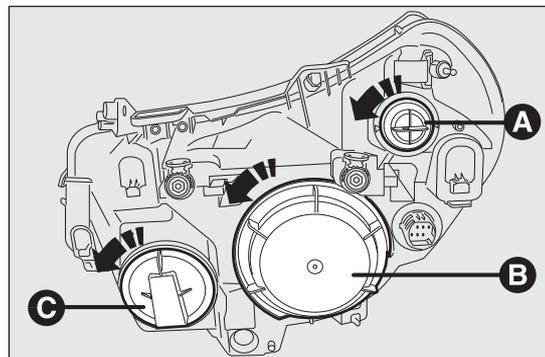

fig. 189
To replace a bulb of the main beam headlights/daytime running lights, remove cap C fig. 189.
To replace a bulb of the dipped headlights/side lights, remove cap B fig. 189.
To replace the direction indicator bulb, remove bulb holder A fig. 189.
- remove protective cover B fig. 189, rotating anticlockwise;
- refit the protective cover B fig. 189, turning it clockwise and making sure that it locks correctly.
- remove protective cover C fig. 189, rotating it anticlockwise;
- refit the protective cover C fig. 189, turning it clockwise and making sure that it locks correctly.
- remove protective cover B fig. 189, rotating it anticlockwise;